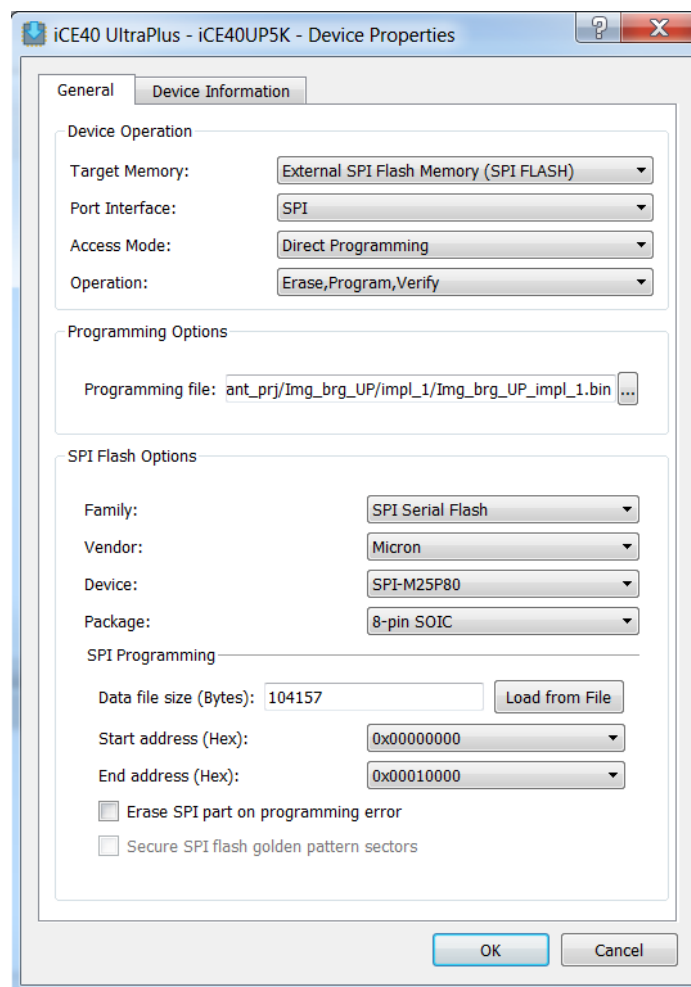

Figure 3.4. Device Properties Dialog
- Apply the settings in the Device Properties dialog as shown in Figure 3.4. Target Memory: External SPI Flash Memory (SPI FLASH)